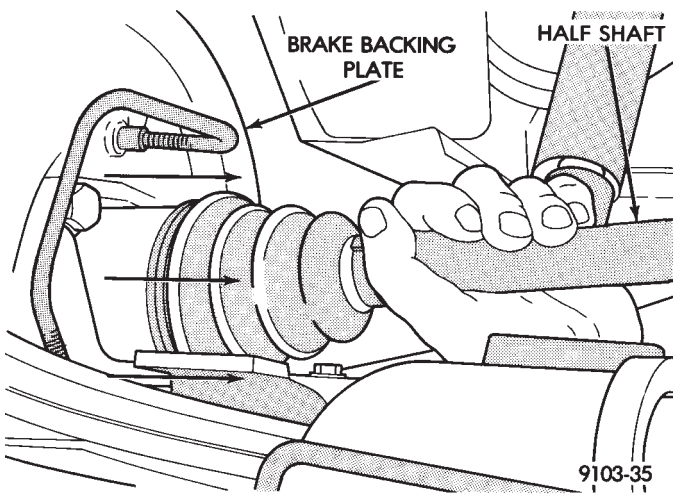

Fig. 5 Half Shaft Removal
(6) The half shaft is spring loaded. Compress inner half shaft joint slightly and pull downward to clear rear differential. Then pull half shaft assembly outward to remove (Fig. 5).